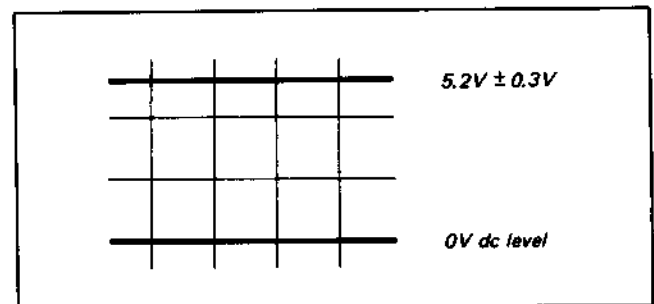

Fig. 4-5. Drum free speed adjustment
- (3) Adjust the DC level to  $5.2V \pm 0.3V$  with RV9 (see Fig. 4-5).